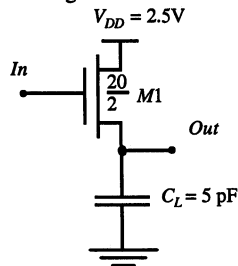

Figure 5.6 Circuit diagram with annotated  $W/L$  ratios
8. [M, None, 3.3.3] An NMOS transistor is used to charge a large capacitor, as shown in Figure 5.6.